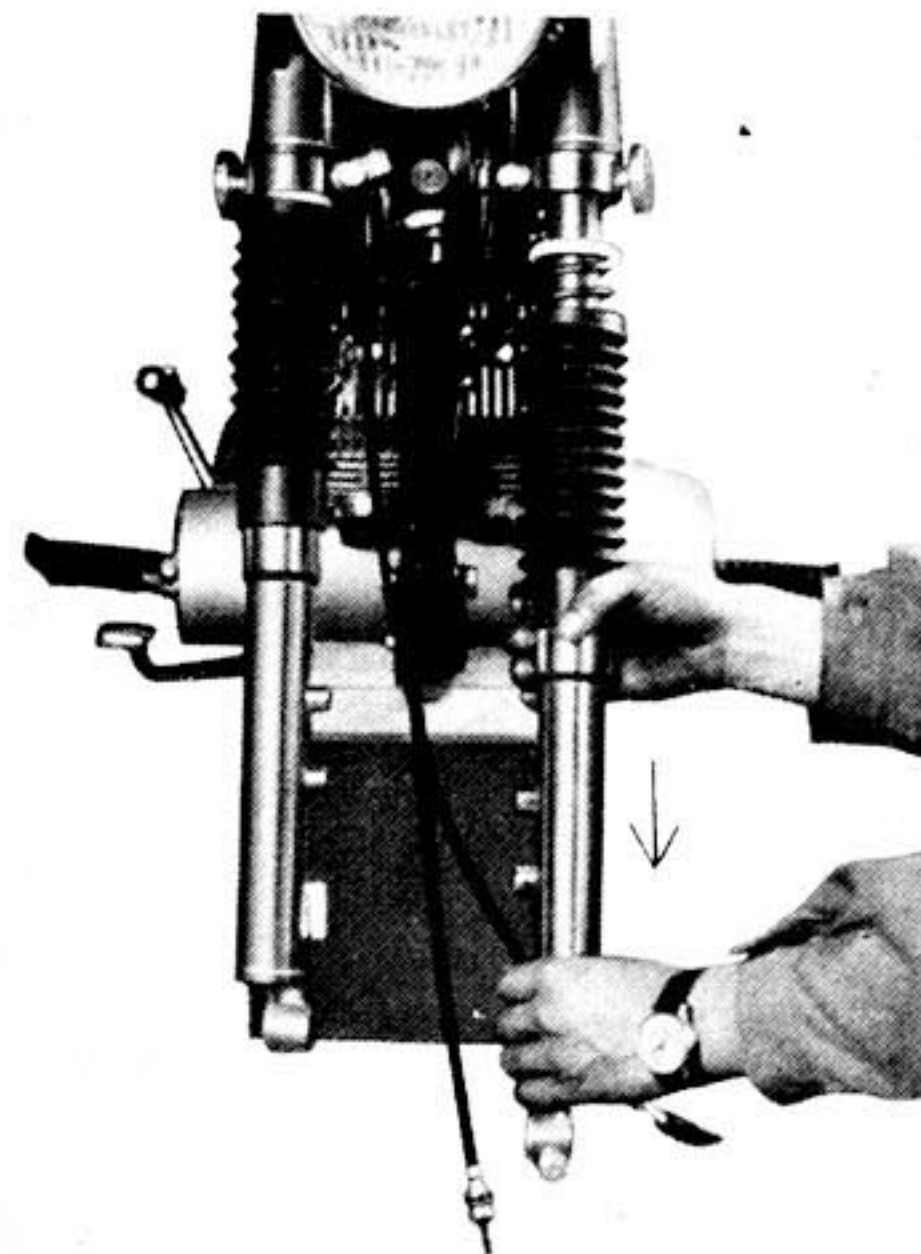

Fig. 5-7-2
- 3) Draw the outer tube downward to remove the assembly. (Fig. 5-7-2)